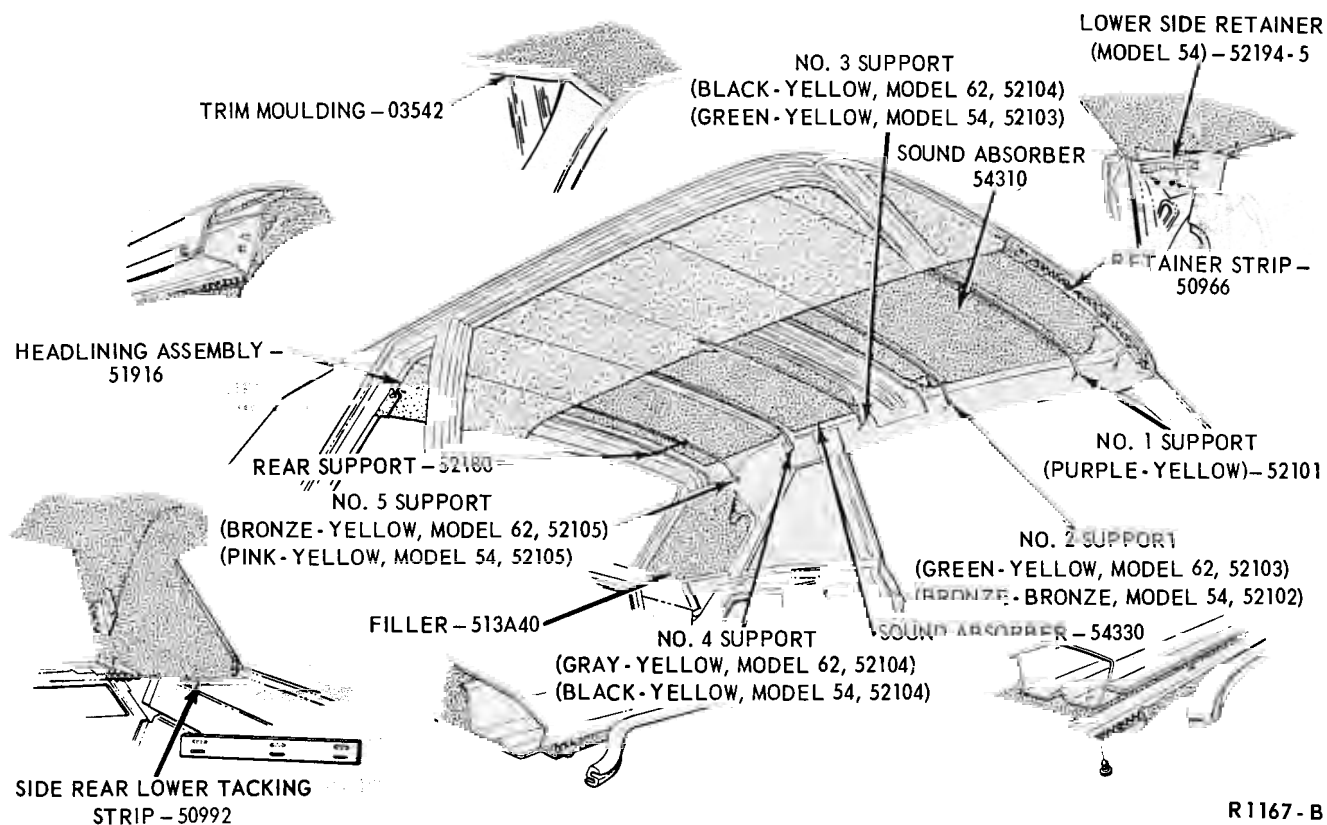

FIG. 4—Headlining Installation—Typical Comet, Falcon, Fairlane
10. Peel the headlining from around the windshield and door openings (Figs. 4 and 5).